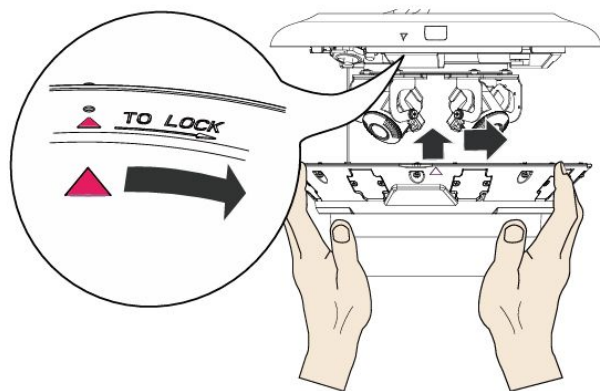

Figure 1-10
Step 9 Align the triangle on the lip of the **Dome Cover** with the triangle on the **Base Plate**. Press the **Dome Cover** onto the **Base Plate** and rotate the it counterclockwise, to lock the position. See Figure 1-10.